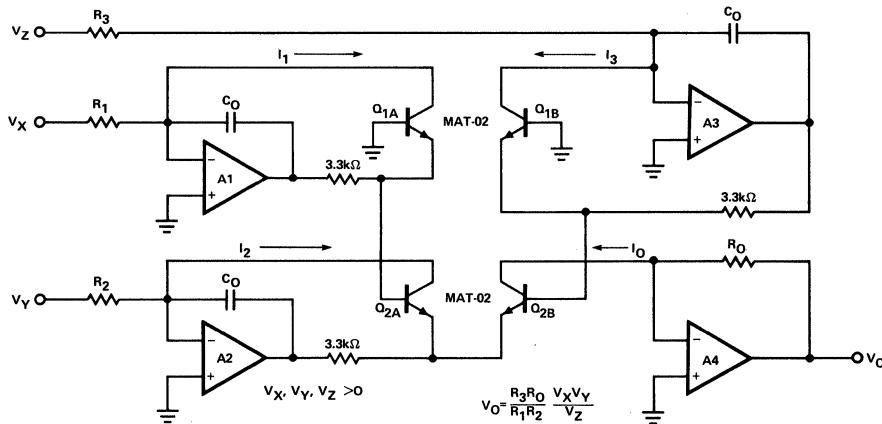

Figure 1. One-Quadrant Multiplier/Divider
The excellent log conformity of the MAT-02 over a very wide range of collector current makes it ideal for use in log-antilog circuits. Such nonlinear functions as multiplying, dividing, squaring, and square-rooting are accurately and easily implemented with a log-antilog circuit using two MAT-02 pairs (see Figure 1). The transistor circuit accepts three input currents (I_1 , I_2 , and I_3) and provides an output current I_O according to $I_O = I_1 I_2 / I_3$. All four currents must be positive in the log-antilog circuit, but negative input voltages can be
For the circuit shown in Figure 1, the operational amplifiers make $I_1 = V_X/R_1$, $I_2 = V_Y/R_2$, $I_3 = V_Z/R_3$, and $I_O = V_O/R_O$. The output voltage for this one-quadrant, log-antilog multiplier/divider is ideally:
Returning to the multiplier/divider circuit of Figure 1 and using Equation (4):
In more complex circuits, such as the circuit in Figure 1, it may be inconvenient to apply a compensation voltage to each individual base. A better approach is to sum all compensation to the bases of Q1. The "A" side needs a base voltage of $(V_O/R_O + V_Z/R_3)r_{BE}$ and the "B" side needs a base voltage of $(V_X/R_1 + V_Y/R_2)r_{BE}$. Linearity of better than $\pm 0.1\%$ is readily achievable with this compensation technique.